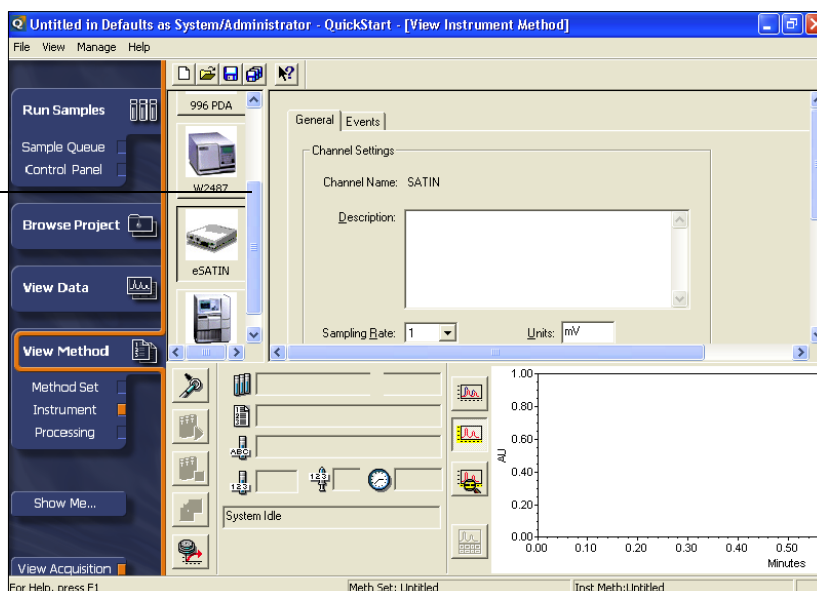

Figure 3-8 View Instrument Method Window
3. Access the instrument lists by selecting **View > Method > Instrument** (Figure 3-8).